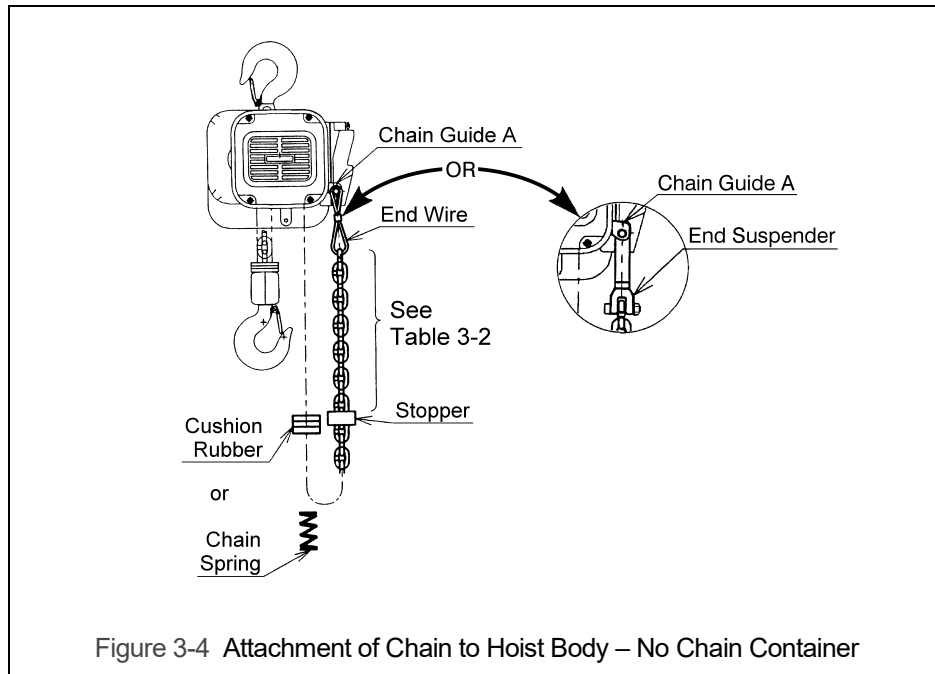

Figure 3-4 Attachment of Chain to Hoist Body – No Chain Container
- 3.2.2 When the hoist is used without a chain container, the free end of the chain is attached to the hoist body as shown in Figure 3-4. Connect the no load end of the chain to Chain Guide A with the End Wire or End Suspender provided. Make sure the chain remains free of twists and the chain Stopper is installed on the correct link. Refer to Table 3-2 for proper placement of Stopper.